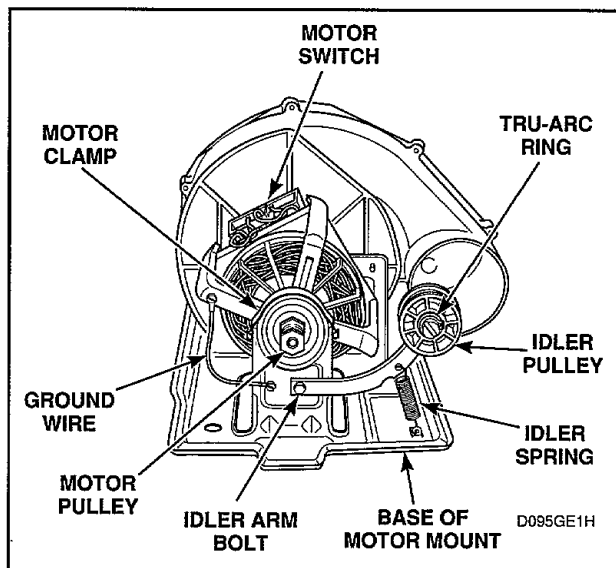

Figure 37
Refer to *Figure 37* for motor and idler pulley removal.
- (2) Disconnect ground wire from motor, *Figure 37*.
- (3) Use a screwdriver and pry two motor clamps off motor mounting bracket, *Figure 37*. Then lift motor out of mounting bracket.
NOTE: When replacing motor, motor switch location should be at 10 o'clock position (viewed from pulley end, *Figure 37*) with the anti-rotating notch (located on the front and rear cradles) on the motor mounting bracket.